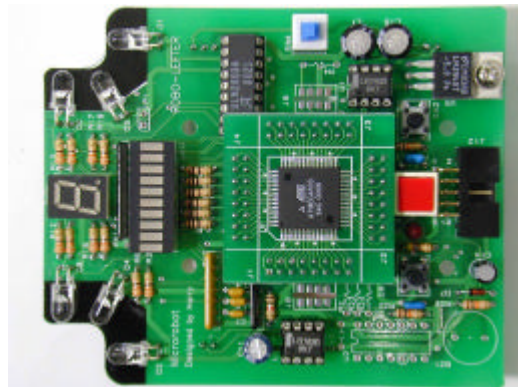

Fig 2.18
**(33)~(35) Refer to Fig 2.18**